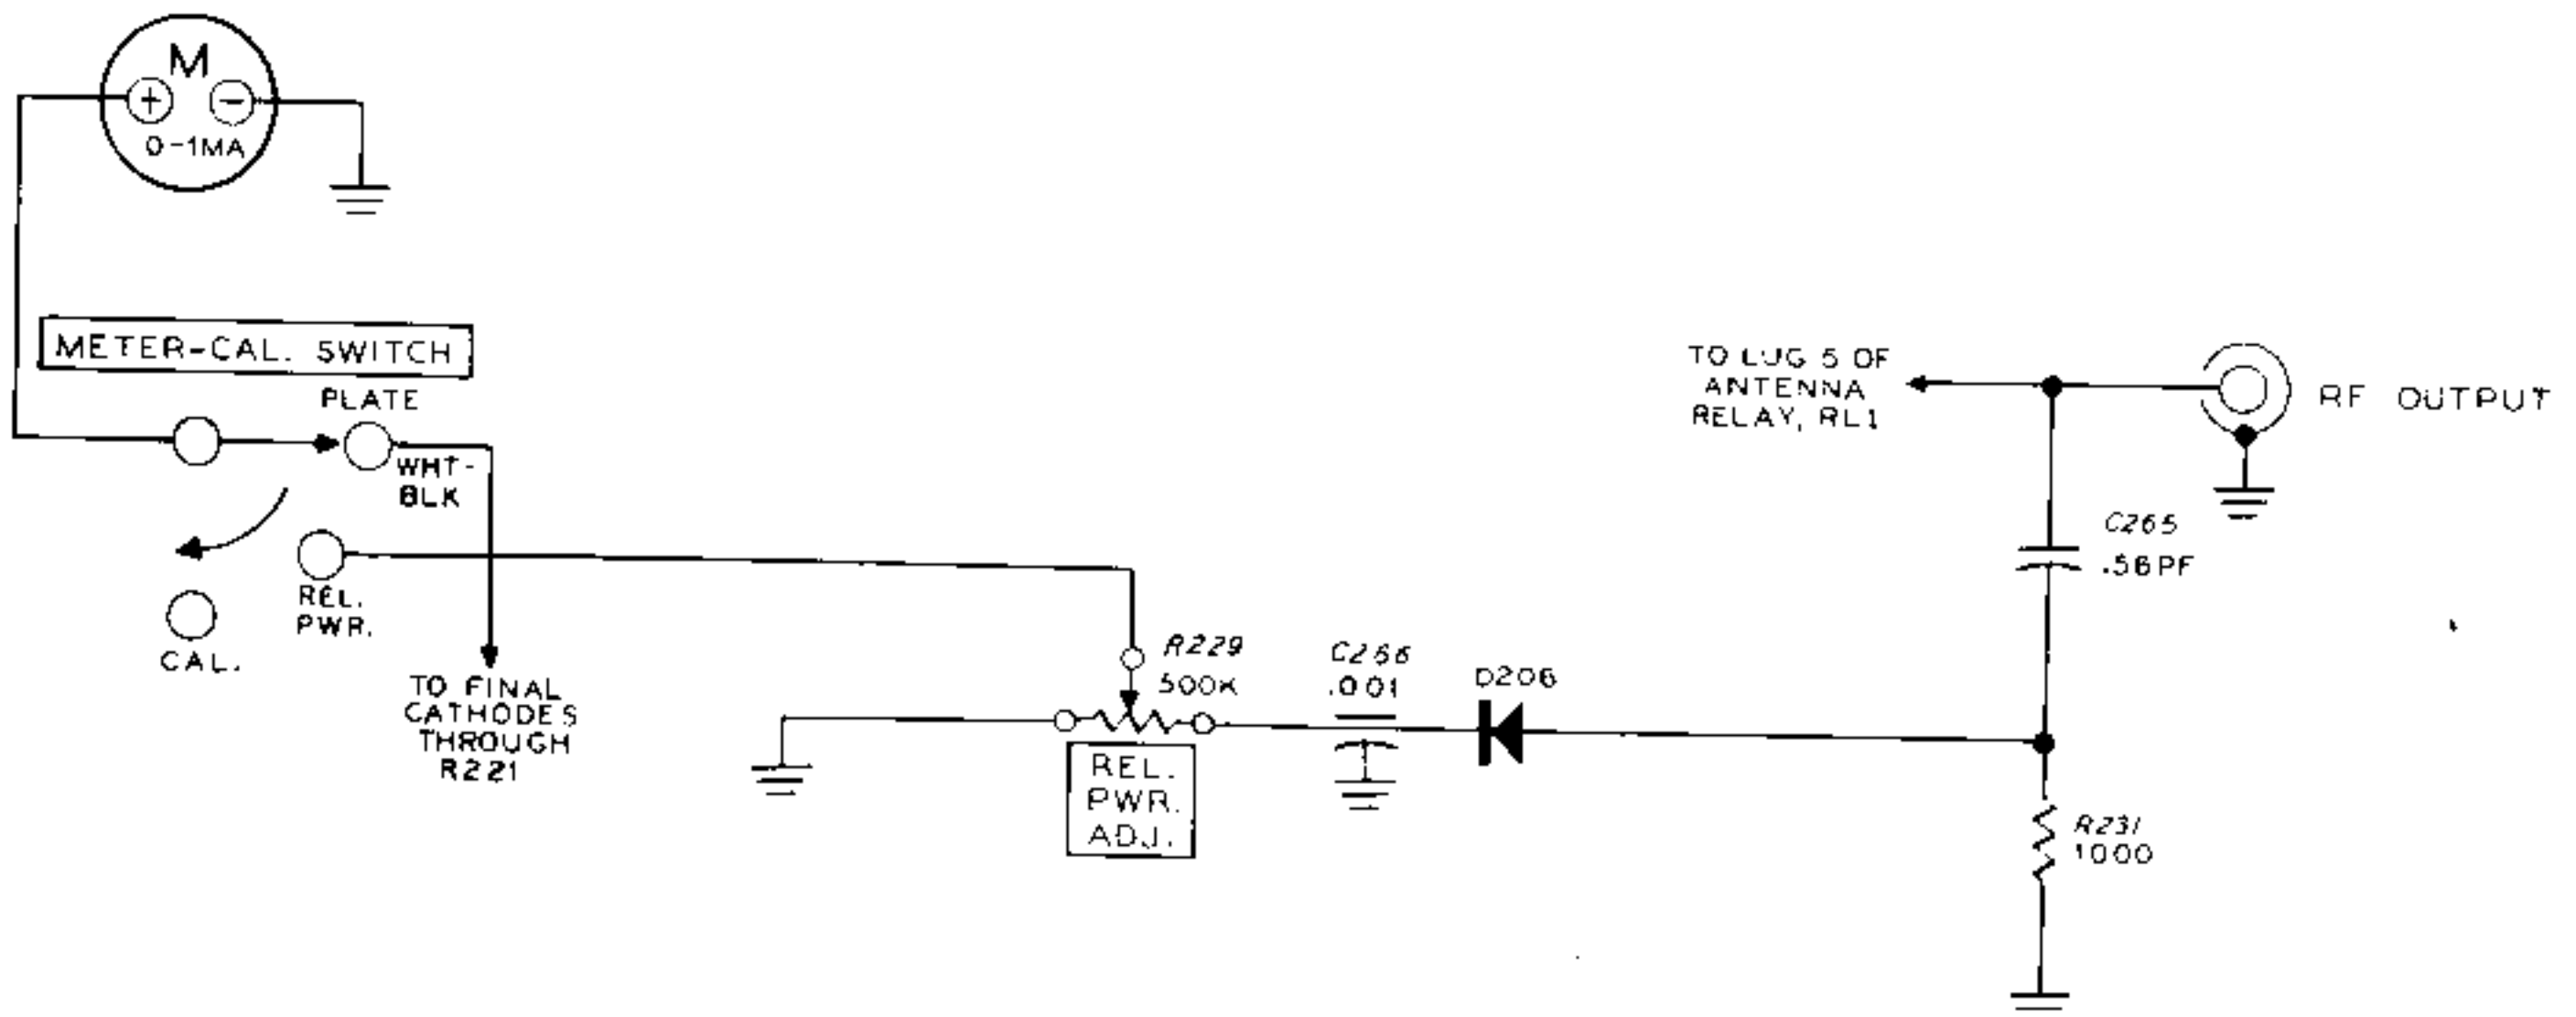

Figure 12-11
**METERING CIRCUITS (Figure 12-11)**